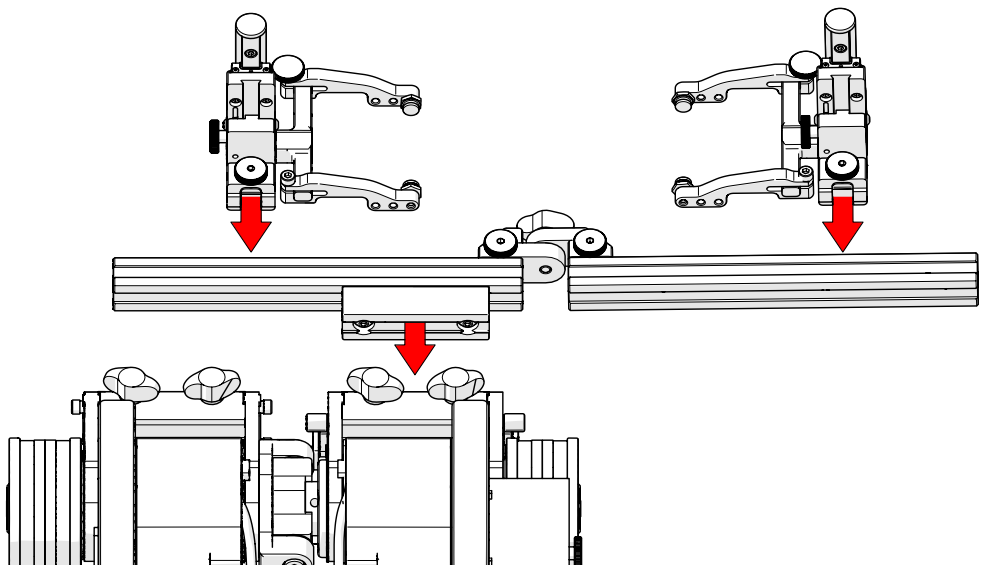

Fig. 236 - Configure assembly and mount to NAVIC
1. Disassemble the pivoting probe holder frame to achieve the setup shown (Fig. 236). Ensure proper placement of the frame bar with attached mounting point in relation to the **NAVIC**.